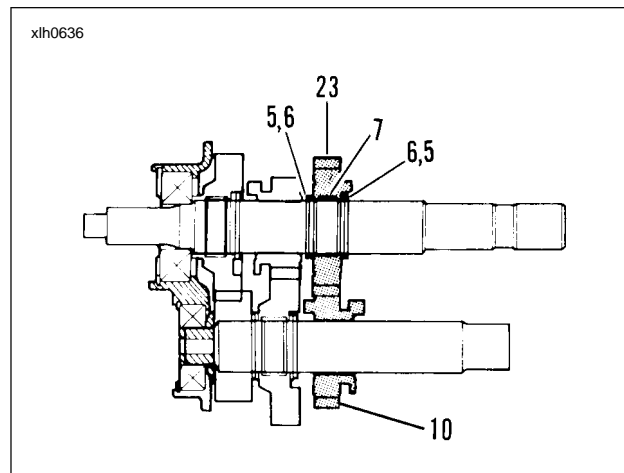

Figure 6-46.
10. See Figure 6-46. At mainshaft, install retaining ring (5) and thrust washer (6). Install split bearing (7) in seat next to thrust washer (6).
11. Install mainshaft 3rd gear (23) onto shaft over bearing (7).
12. Install thrust washer (6) and retaining ring (5) next to gear (23).
13. Install countershaft 3rd gear (10) onto shaft. The shifter fork groove must face away from the access door.